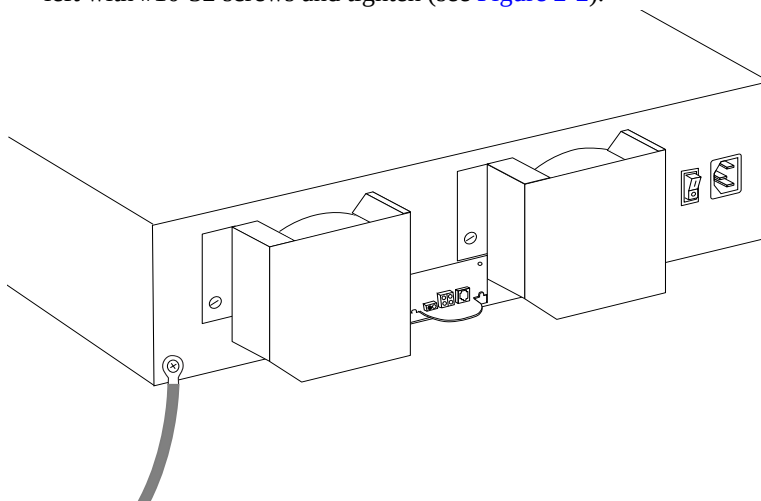

Figure 2-2. Attaching the shelf grounding strap
6. Mount the shelf grounding straps on the back of the drive unit to the left with #10-32 screws and tighten (see Figure 2-2).